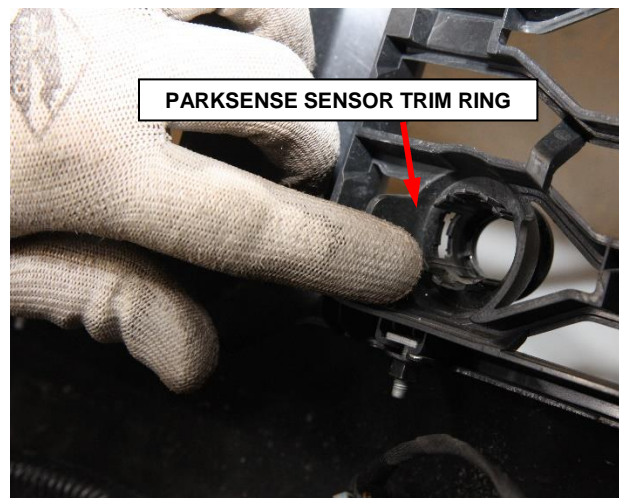

Figure 12 – Parksense Sensor Trim Ring
- b) Push the trim ring forward through the grill (Figure 12).
19. Install the Parksense sensor trim rings by pressing them into place (Figure 12).